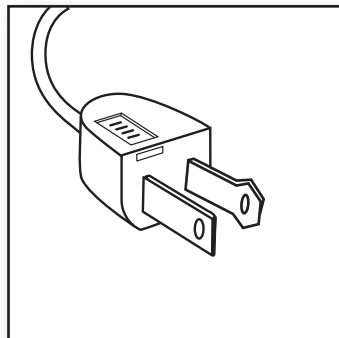

Figure 1
1. Grasp plug and remove from the receptacle or other outlet device. Do not unplug by pulling on cord. Locate the door on top of the plug. Figure 1